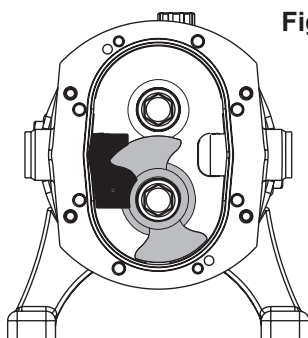

Fig. 4
6. Position the rotor locking piece as shown in fig. 4.
7. Undo and remove the bottom or left rotor screw (32).
8. Remove the rotor (35) as before by pulling it out from the shaft (39) with your fingers / special extractor.